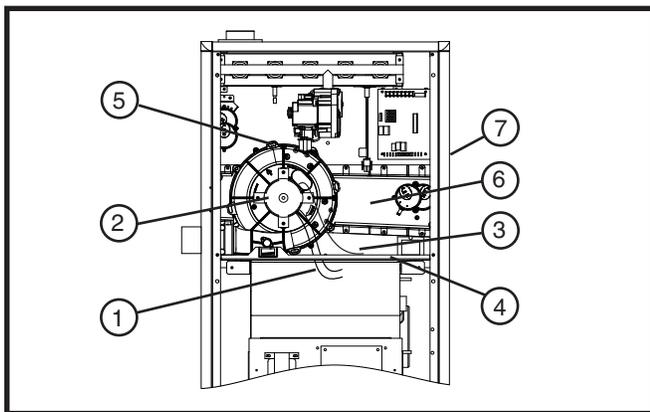

Figure 14. Inducer Assembly Rotation
1. Disconnect the electrical harness (1) from the inducer assembly (2). See Figure 14 (page 18).
2. Remove the inducer assembly ground wire (3) from the blower deck (4) or door.
3. Remove four screws (5) securing the inducer assembly (2) to the header box (6).
5. Rotate the inducer assembly (2) to its new position.
6. Secure the inducer assembly (2) to the header box (6) by reinstalling the four screws (5) and the extra screw provided in the parts package.